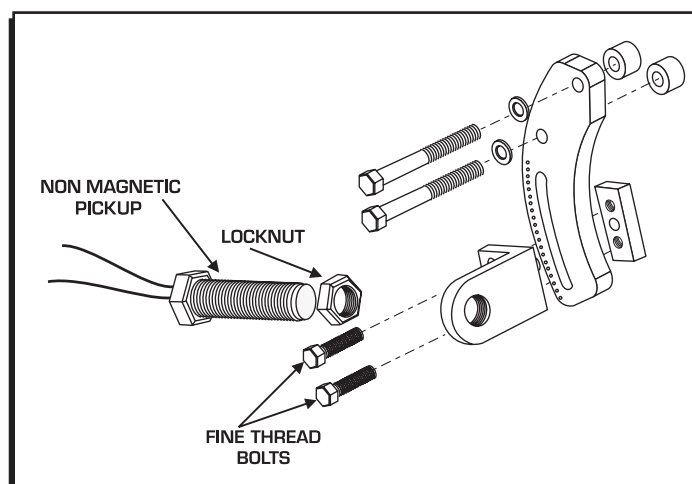

Figure 1 Pickup Bracket Assembly.
1. Mount the pickup holder onto the bracket using the two fine thread bolts (Figure 1). The pickup base will only install one way, do not try to force the bolts in, and hand tighten the bolts.